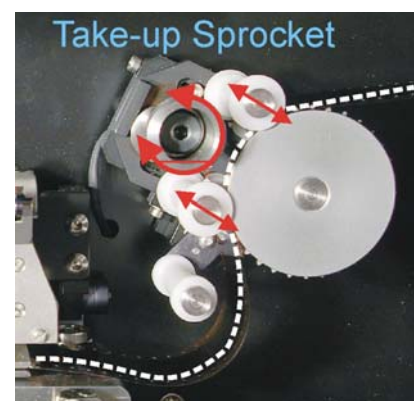

Fig 38 Sprocket lacing path
2. Lace Take Up Sprocket. Rotate hold down clamp to lift hold down rollers away from the sprocket as shown in Fig 38. Wrap film around sprocket as indicated, ensuring film perforations engage with sprocket teeth. When correctly wrapped rotate hold down clamp to lower rollers onto film.